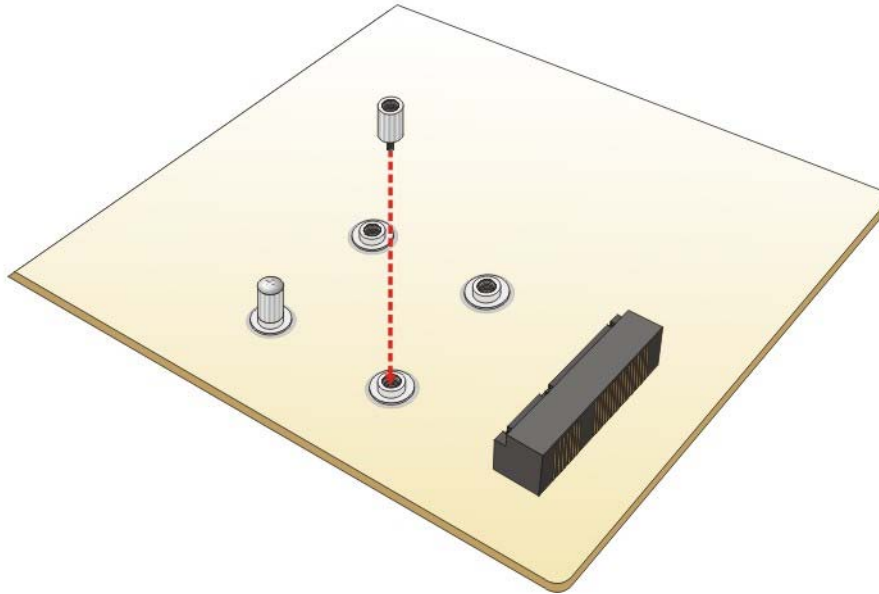

Figure 4-7: Installing the Standoff
Step 4: Install the standoff to the screw hole for the half-size PCIe Mini card. Install the previously removed standoff to the screw hole for the half-size PCIe Mini card (Figure 4-7).